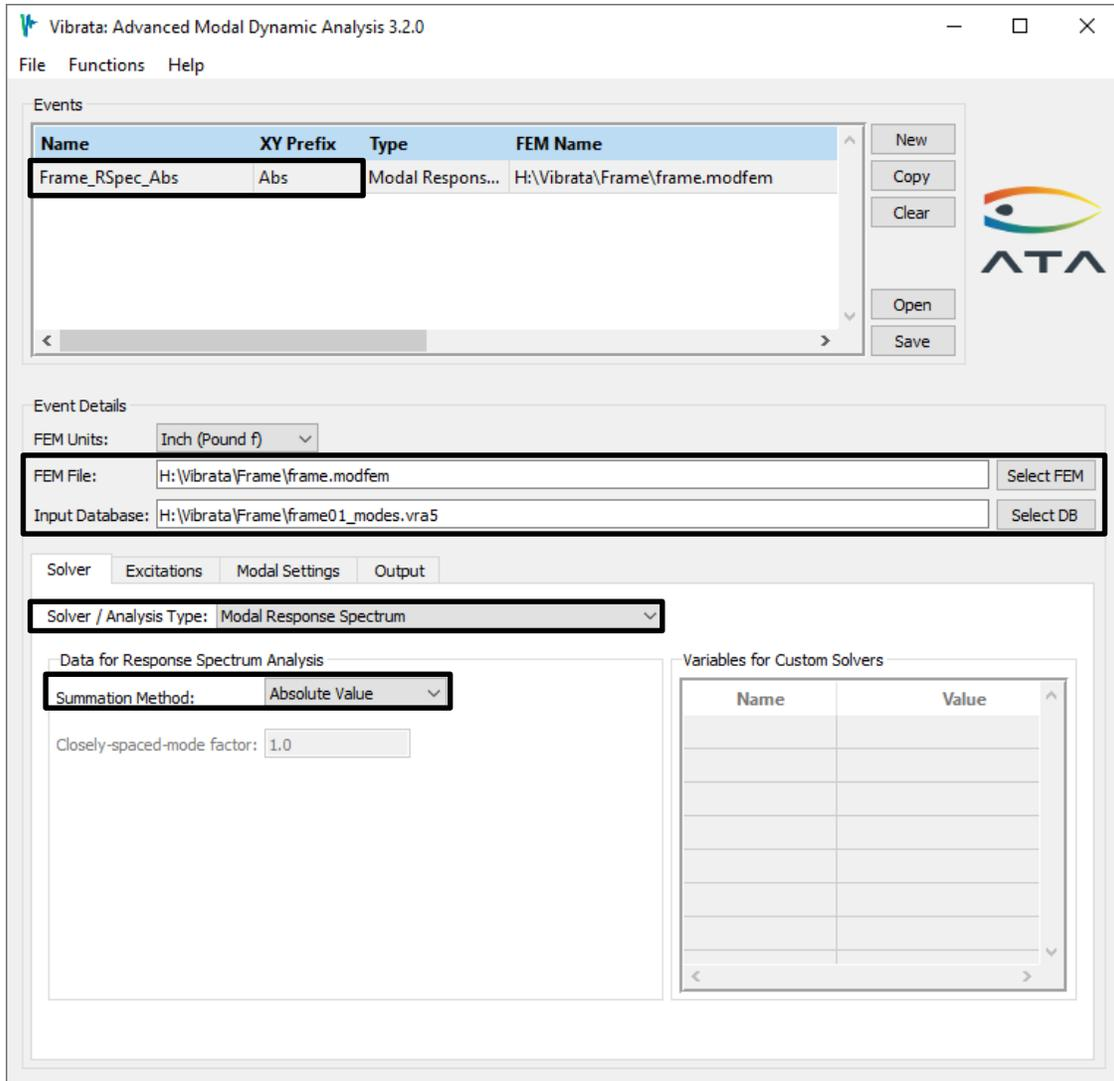

Figure 4-75. New response spectrum event with absolute value summation.
2. Create a new Vibrata event, select the "frame.modfem" file for the FEM and "frame01\_modes.op2" for the results, and create a Modal Response Spectrum event with the **Summation Method** set to *Absolute Value* (Figure 4-75).